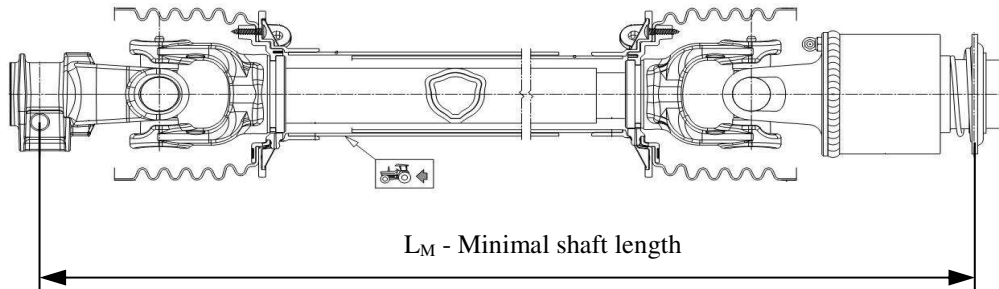

Fig. 18. Properly measured shaft length
- ❑ next additionally distract 5.9" from the resulting measurement in order to keep tolerance and shorten the shaft for this particular length (**Fig. 18**). Information on proper shortening of shafts is provided in item **5.5** herein, on decal N-149 placed on the machine and also found in shaft's manual provided by its manufacturer.